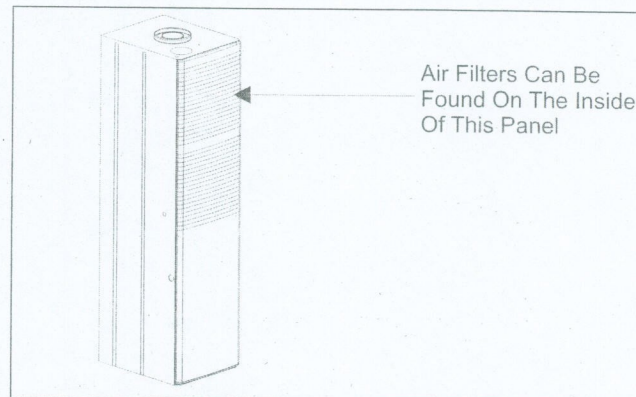

FIGURE 13: Furnace Air Filters
1. **FURNACE FILTER RACK:** A return filter rack with two standard throwaway type filters are supplied on all models. The return filter rack is located on the inside of the louvered door. This type of filter rack is designed for two standard air filters only. Pleated Media or Washable Filters cannot be used in this filter rack because they cause too much pressure drop causing a reduction in airflow. Refer to Figure 13.